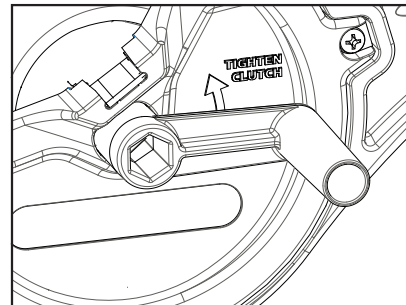

Figure 23
3. Install the handle's hex pattern to match the hex pattern on the spool. Once installed, turn the crank towards you to retrieve the weight. (Figure 23)